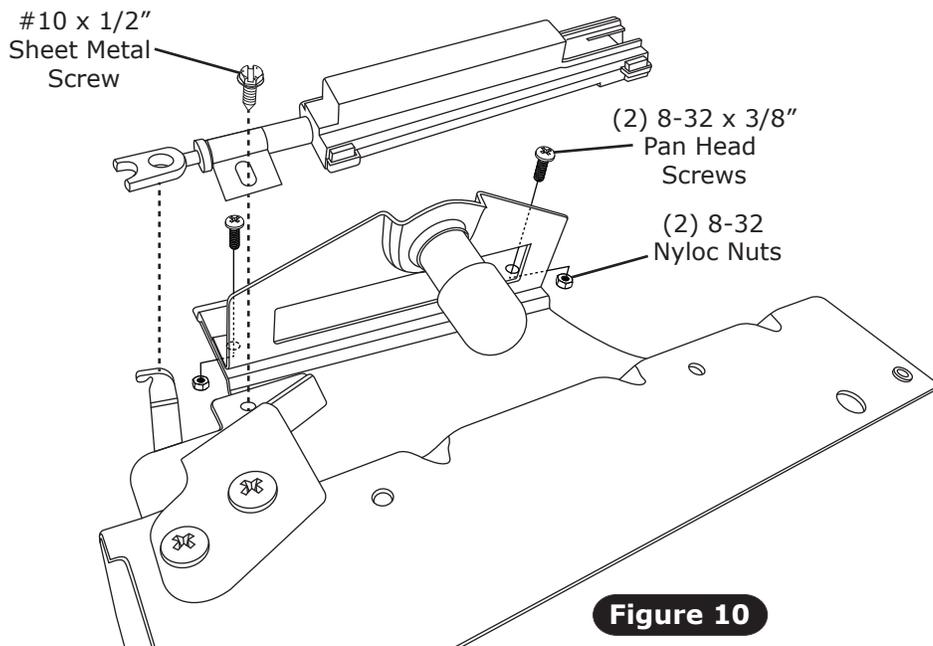

Figure 10
4. Reinstall light bracket to control panel frame using (2) 8-32 x 3/8" pan head screws and (2) 8-32 nyloc nuts as shown in Figure 10, below.